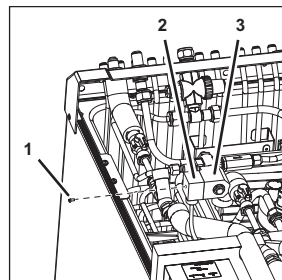

Figure 80
1. Disconnect the plug (Figure 80/2) of the solenoid valve (Figure 80/3) by removing the fastening bolt (Figure 80/1).
36. Attach the plug (Figure 80/2) of the solenoid valve (Figure 80/3) by removing the fastening bolt (Figure 80/1).